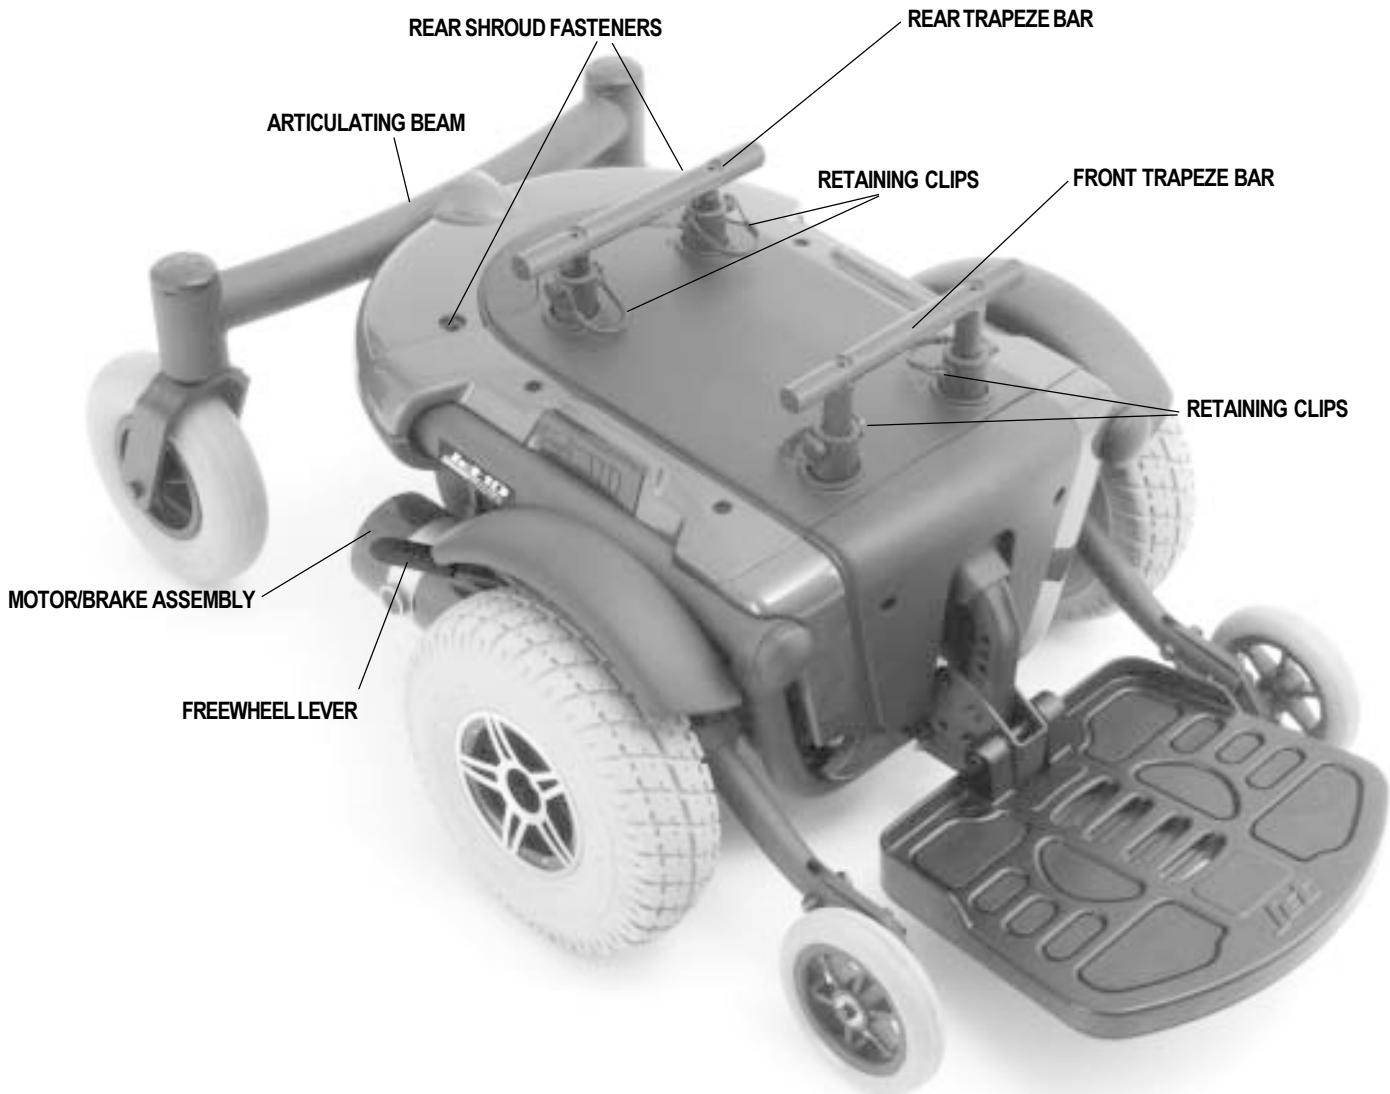

Figure 5. The Jet 10 Ultra Power Base
2. Turn the rear shroud fasteners one-quarter turn in any direction and remove the rear shroud cover. See figure 5.